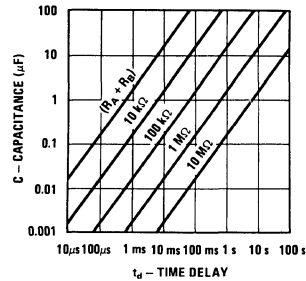

FIGURE 3. Time Delay
*Figure 3* is a nomograph for easy determination of  $R, C$  values for various time delays.